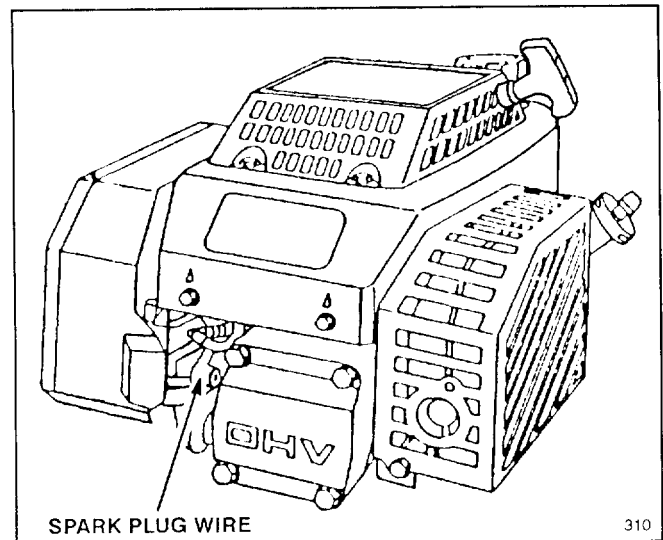

Figure 11
2. Push spark plug wire onto spark plug (Fig. 11).
1. Stop engine and pull wire off spark plug (Fig. 11). Remove key from switch on electric start model.